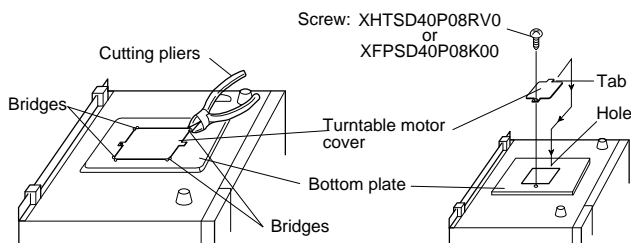
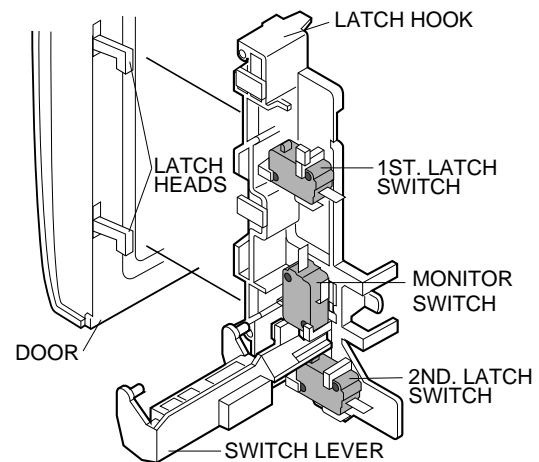

Figure C-4. Turntable Motor Cover
Figure C-6. Latch Switch Adjustments
4. Cut the four (4) bridges holding the turntable motor cover to the bottom plate with the cutting pliers as shown in Figure C-4.
3. Apply the grease (Shinetsu silicone grease G-420 of Shinetsu Chemical Co. Ltd. or Toray Silicone grease SH-14 of Toray Silicone Co., Ltd.) to the O-ring and the base of the turntable motor shaft as shown in Figure C-6.
4. Re-install the turntable motor with the O-ring and washer to the oven cavity with the single (1) screw.
6. Insert the tab of the turntable motor cover into the hole of the bottom plate as shown in Figure C-4.
7. Re-install the turntable motor cover to the bottom plate with one (1) screw XHTSD40P08RV0 or XFPSD40P08K00 as shown in Figure C-4.